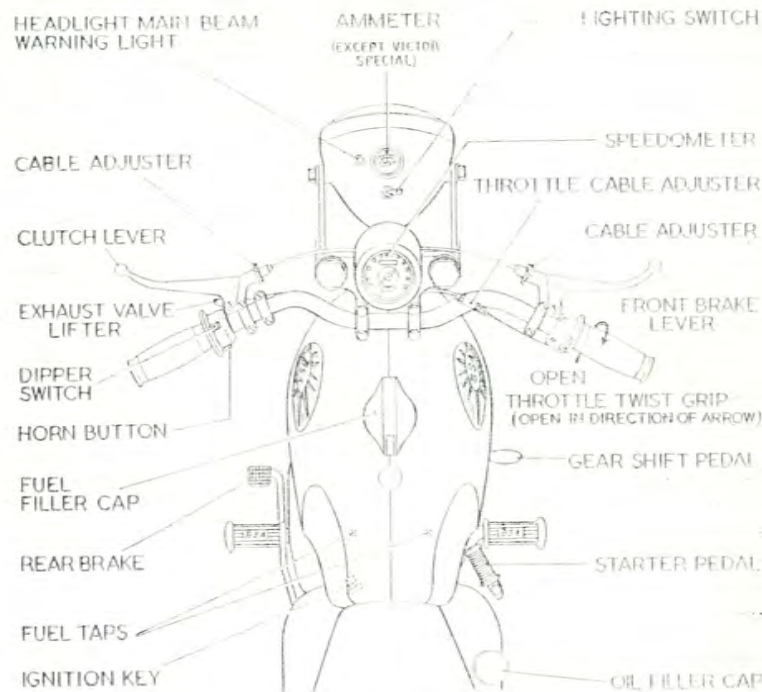

FIG. 1. The controls
This is operated by a detachable key (K) Fig. 5, which when in the counter-clock position, switches off the ignition and can be withdrawn. Always place in this position when the motor is stationary and remove the key when leaving the machine. Turn the key to the clockwise position to switch on the ignition and leave in this position when the motor is running. The switch is located on the left side of the frame at the rear of the petrol tank (Fig. 1).